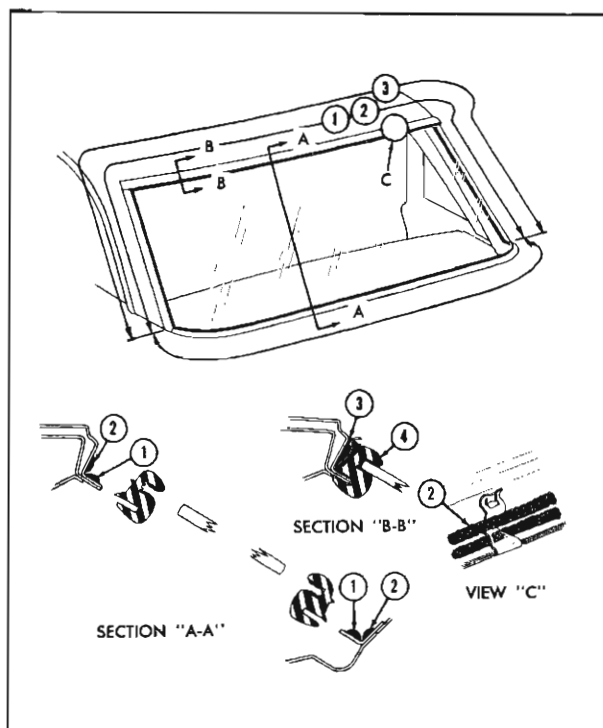

Fig. 14-3 Back Window Sealing
3. On styles using clip retained reveal moldings, check retaining clips and replace damaged or defective clips. Prior to installing clips, apply a continuous ribbon of medium-bodied sealer (approximately  $\frac{1}{4}$  inch thick) along the pinchweld and retaining flange (1 in Fig. 14-3) completely around the opening.
4. Apply a second continuous ribbon of medium-bodied sealer (approximately  $\frac{1}{4}$  inch thick) along outer wall of back window opening (2 in Fig. 14-3) completely around opening.
7. On styles with clip retained reveal moldings, apply sufficient medium-bodied sealer to fill void between rubber channel and body opening up sides and across top of window (3 in Fig. 14-3).
8. Using a pressure type applicator, apply an approved weatherstrip adhesive (black) between outer lip of rubber channel and glass (4 in Fig. 14-3) completely around rubber channel.